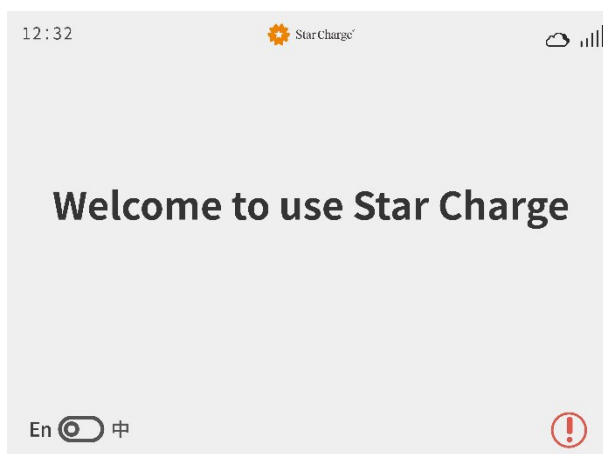

Figure 3-7 Home page fault interface
Step 7: When the LED status indicator of EVSE shows red, it indicates the fault of EVE. At the same time, the exclamation mark will appear in the lower right corner of the main charging interface, as shown in Figure 3-7.